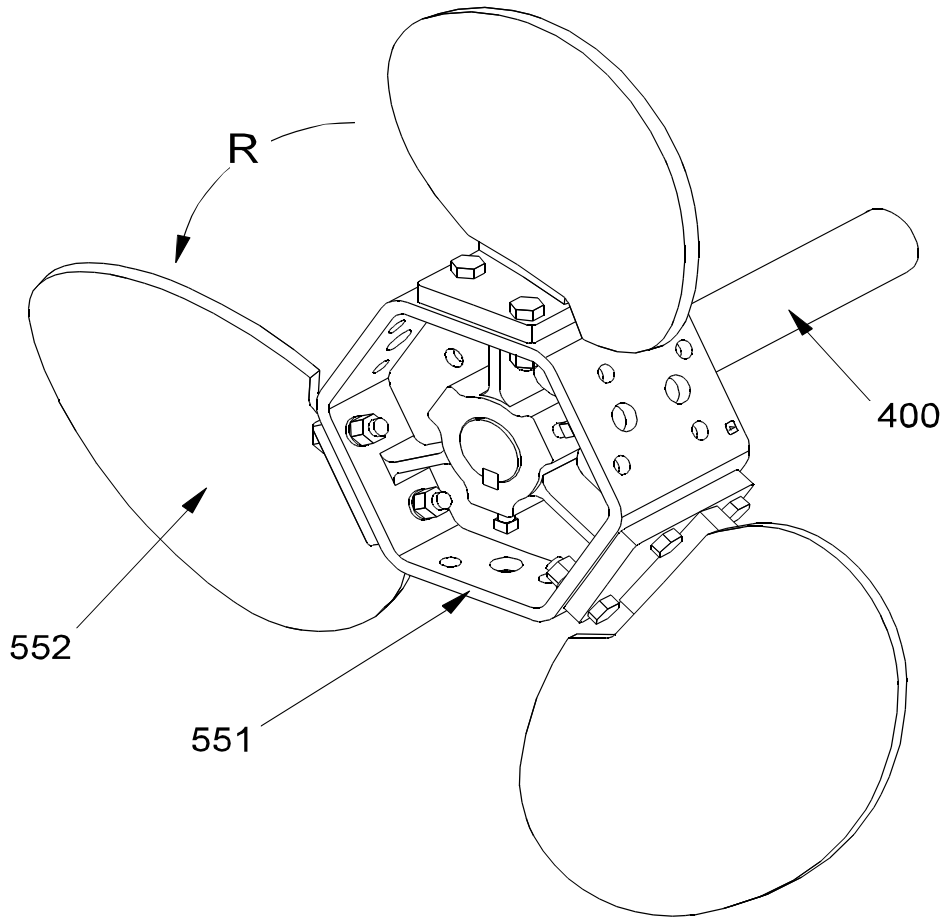

Figure 4: Maxflo Mark II Impeller
2. Remove the impeller from the end of the shaft by unfastening the square head setscrews and locknuts that bear down on the shaft and key and pull off. Use a penetrating lubricant to aid in the removal. If the impeller cannot be easily removed, place a block of wood against the hub end of the impeller and knock it loose with a soft mallet, see **Figure 4**, page 8.
The standard impeller for a PB mixer is a Prochem Mark II impeller. Mark II impellers are built with bolted blades for the large sizes (25A through 87D) and welded blades for the small sizes, 13A through 23D. A bolted-blades impeller is used so that the hub and blades can be handled separately. Bolted blades make the impeller easier to install and may be put through a smaller opening in the tank or chest. Impellers with welded blades are small enough to be installed through a 24-inch (610 mm) manway. Mark II impellers can have either three (3) or six (6) blades. A bolted, three (3) blade Mark II is shown below in *Figure 4*